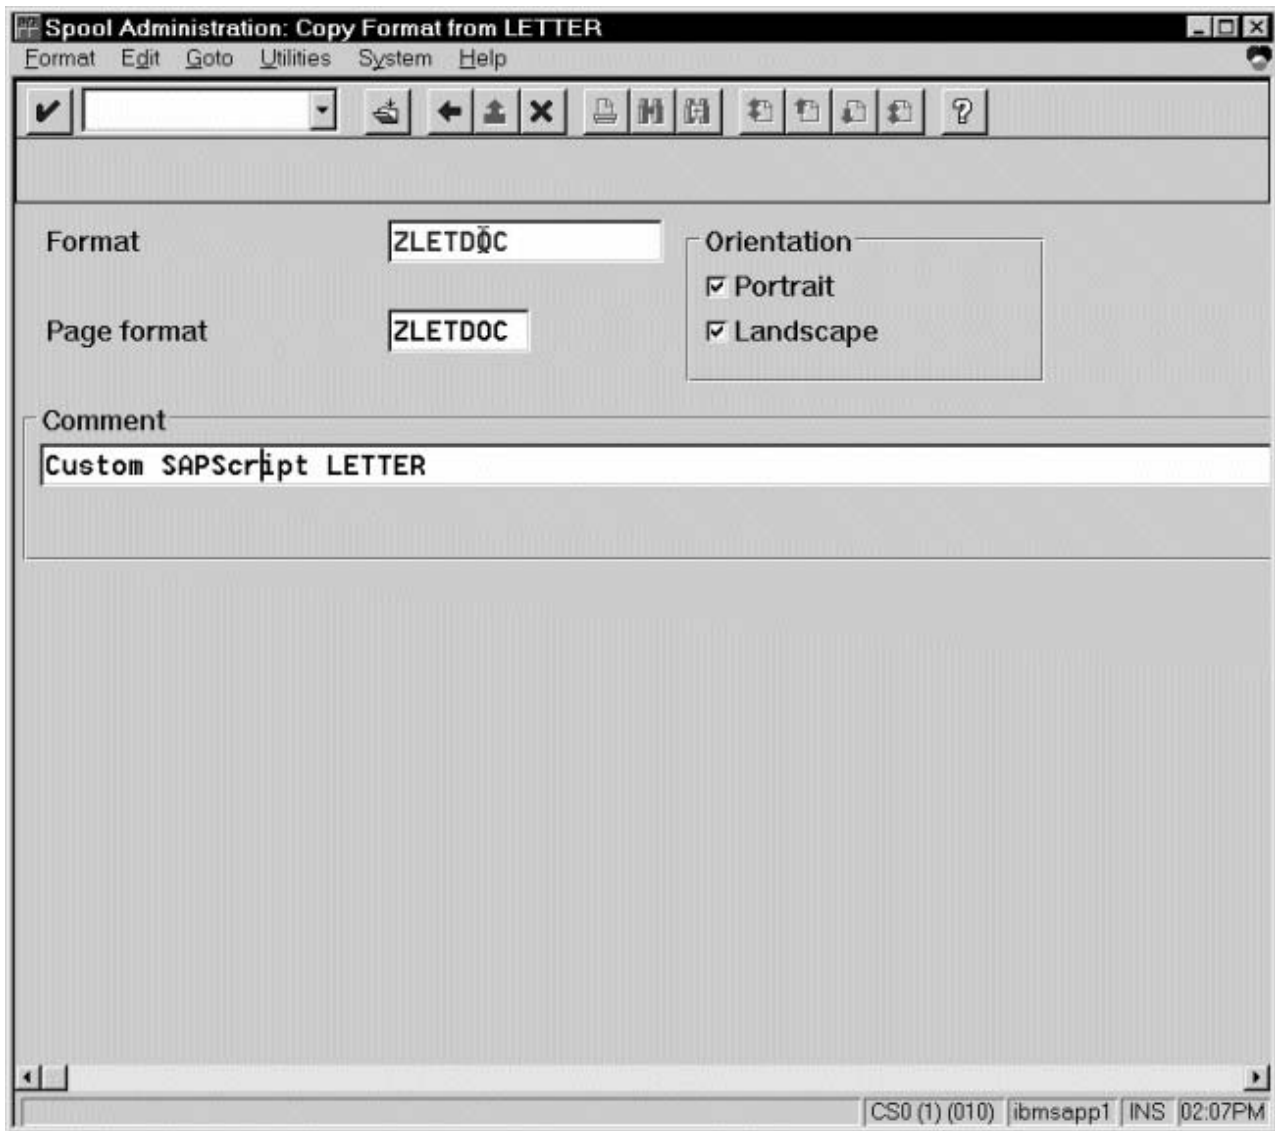

Figure 57. Spool Administration: Copy Format from LETTER window
9. From the Spool Administration: Copy Format from LETTER window, fill in the values as displayed in Figure 57: